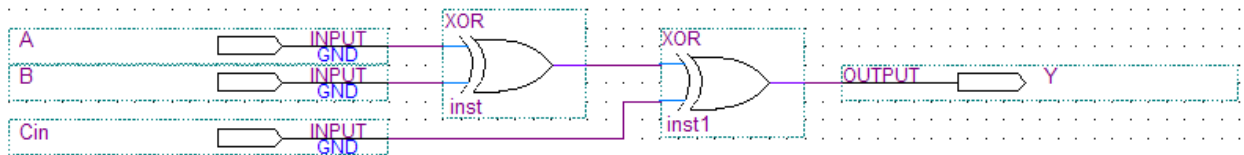

Figure 4. Schematic for sum logic
From the truth table, we now want to implement our design using logic gates. The sum output (S) can be produced from the inputs by connecting two 2-input XOR gates as shown in Figure 4. You should convince yourself that this circuit produces the outputs for S as given in the table.
Use the Orthogonal Node Tool (that resembles a thin wire) to wire the gates together. Click and drag to connect the pins to gates and the two gates together. At this point, your schematic should resemble Figure 4. It's a good idea to click on the wire between the two XOR gates and give it a unique name such as *n1* or *mid* in case you need to debug later.